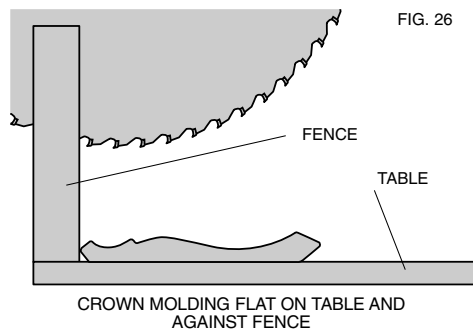

FIG. 26
- 1. Molding laying with broad back surface down flat on saw table (Fig. 26).